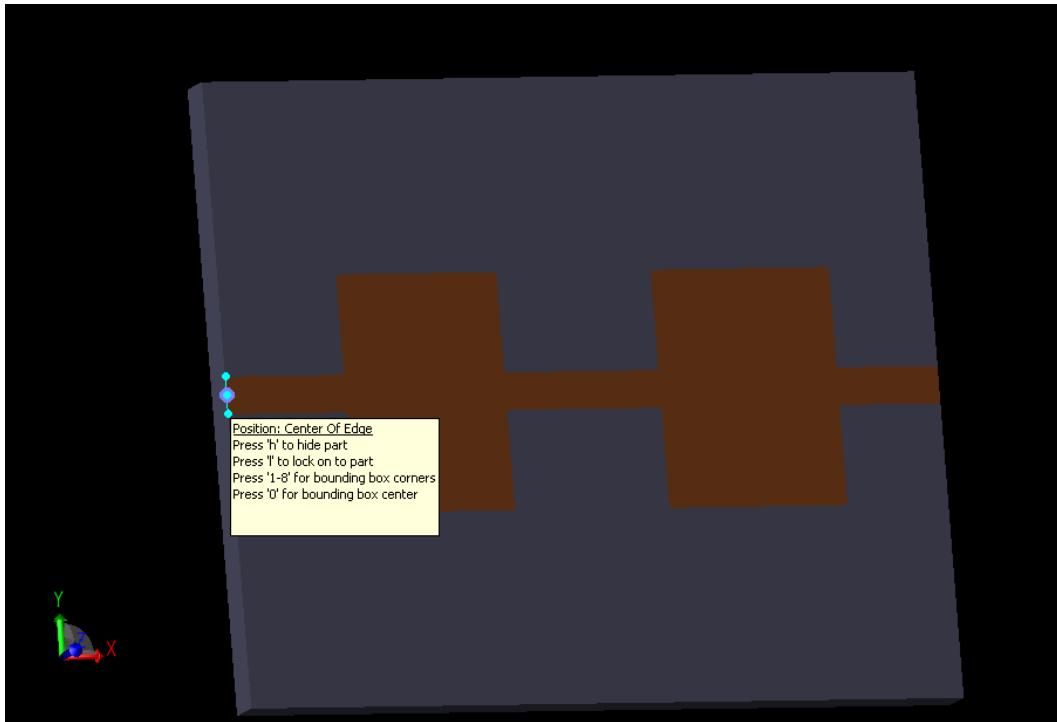

Figure 4.17: Adding a feed with the Picker tool
2. Click on the center of the Strip Line at the Lower X end of the part (See Figure 4.17). The X, Y, Z fields for Endpoint 1 populate.